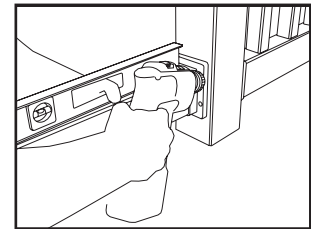

Fig. 3
6. Slide mounting brackets onto bottom rail. Place bottom rail between posts or mounting surface making sure crush block is fully nested in bottom rail and the bottom rail is level. Once the bottom rail height is determined, mount brackets on the post or mounting surface and attach with provided 2 1/2" screws. **NOTE: When installing screws, pre-drill holes using a 1/8" drill bit. NOTE: If installing TAM-RAIL Railing into a masonry wall, masonry screws must be used in place of screws provided in kit. (FIG.3)**